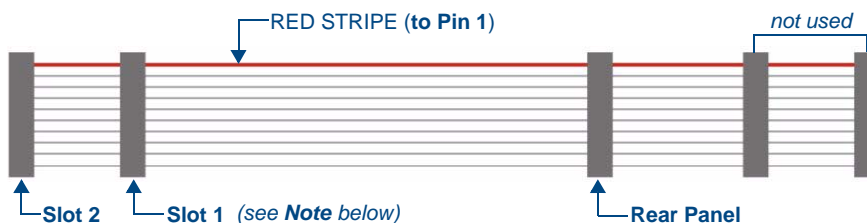

FIG. 73 Tuner Ribbon Cable
- Keep the Tuner Ribbon Cable oriented so that the red stripe is always on top, in order to preserve the orientation of the pins on the Tuner connectors. The red stripe on the ribbon cable indicates Pin 1 (FIG. 73):